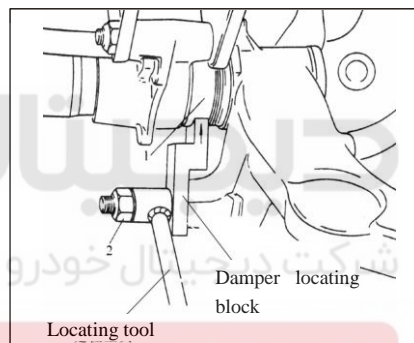

Figure 4-33 Install Setting Tool
(4) Install the special service tool damper locating block and adjusted setting tool (see Figure 4-33), push up damper locating block as much as possible to make it approach to retaining ring 1, and tighten up the nut 2.